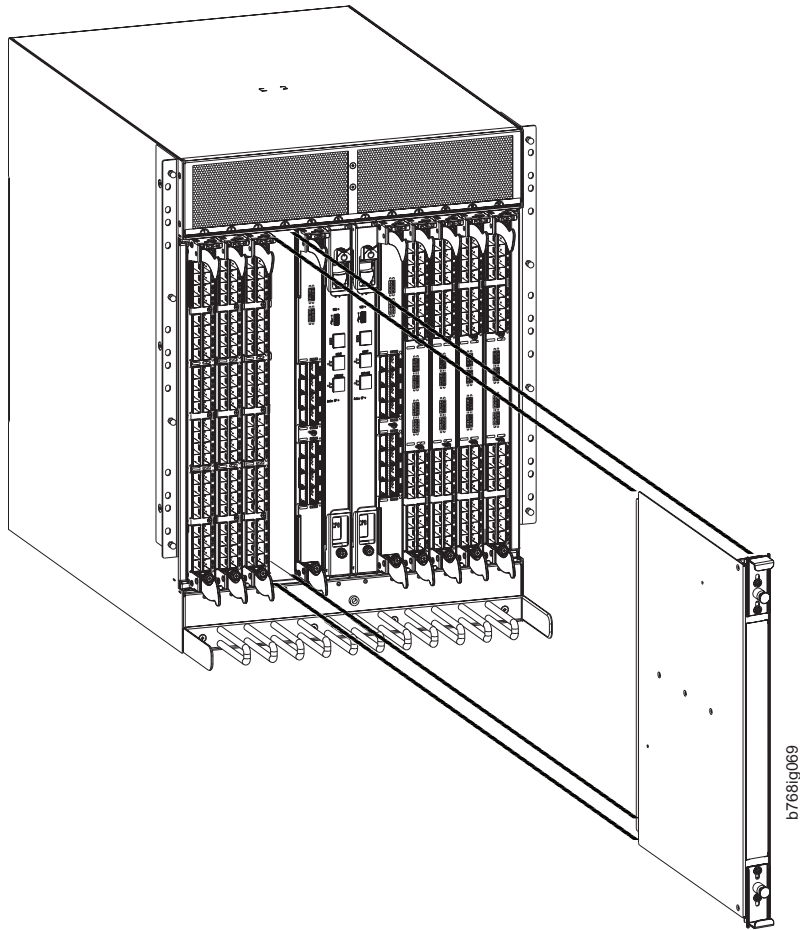

Figure 32. Filler panel removal and installation
3. Using the tabs, pull the filler panel out of the chassis. (See Figure 32 on page 88.)